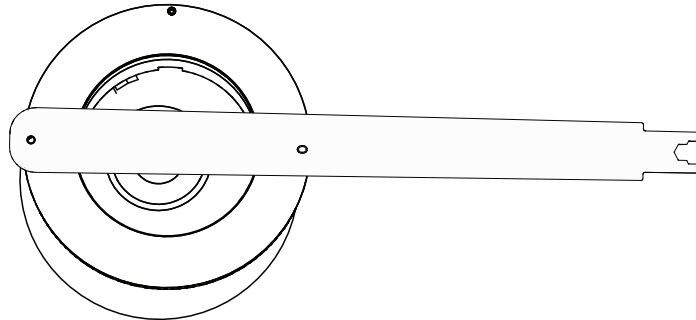

Figure 5.2 Removal of end cap with multi-use tool
1. Loosen the set screws on the rear end cap using the supplied hex key. Loosen the rear end cap using the supplied multi-use tool. To prevent damage to the o-ring, for every half turn counterclockwise turn back one quarter-turn clockwise. (see *Figure 5.2* below).